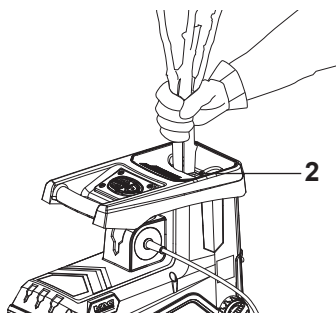

Fig. 11
2. Feed material (e. g. garden waste) into the feeding funnel (2) (Fig.11).